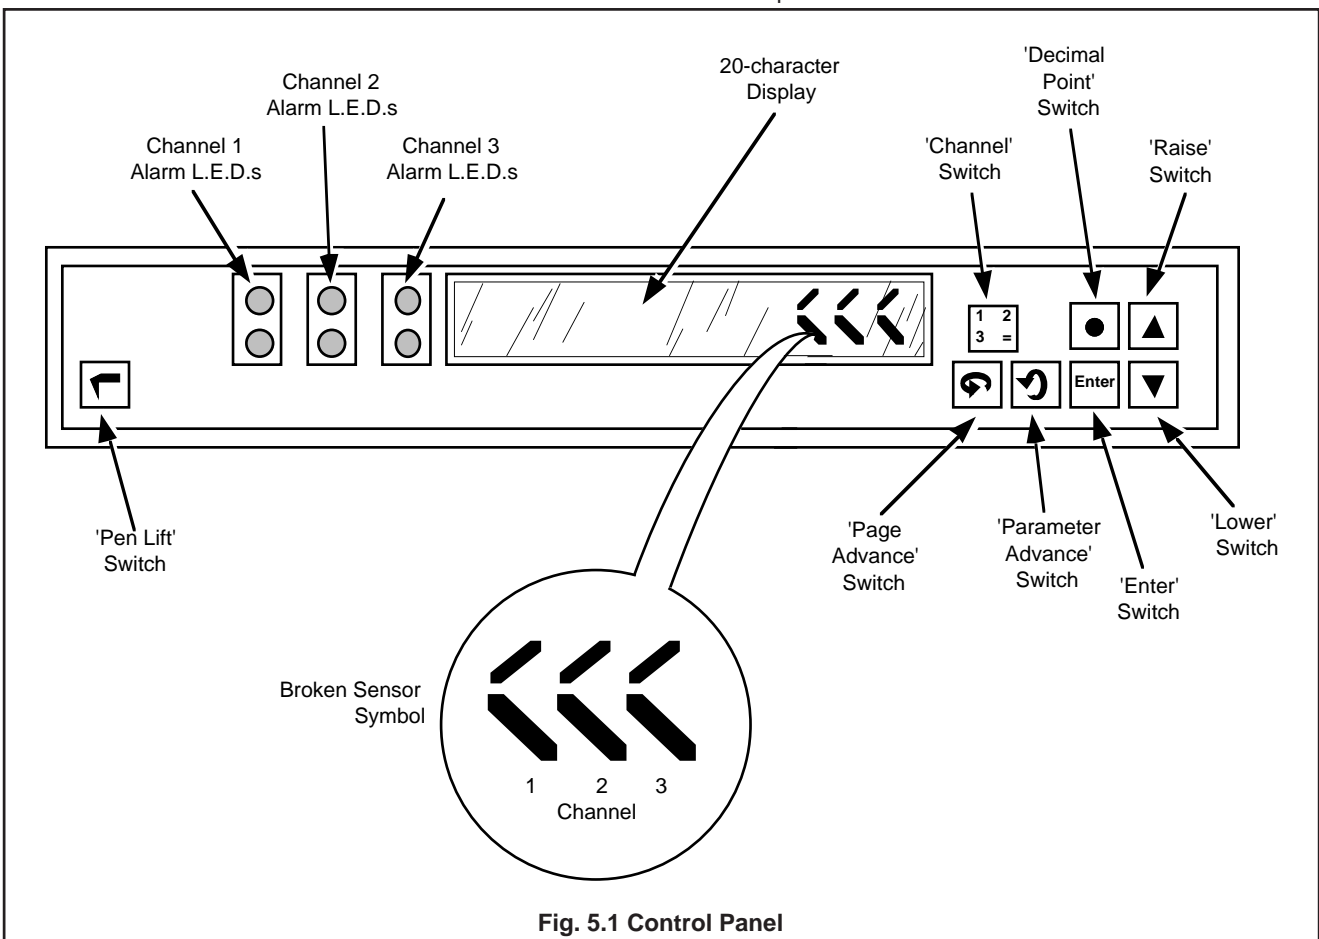

Fig. 5.1 Control Panel
5.1 Controls – Fig. 5.1
5.2 Display – Fig.5.1
The position of broken sensor symbols on the display identifies the channel affected – see Fig. 5.1.
5.3 Alarm L.E.D. Indication – Fig. 5.1
With the power supply to the instrument turned on operate the 'Pen Lift' switch – see Fig. 5.1.
In normal operation the measured values for all channels are displayed in an 'auto-advancing' sequence (**Operating Page 1**). Each parameter can be held for viewing by operating the 'Parameter Advance' switch – see Fig. 5.1.
Operating the 'Page Advance' switch selects a second Operating Page (**Operating Page 2**) for viewing or changing the alarm set points. Required changes to the set point values are made using the 'Raise' and 'Lower' switches see Fig. 5.1.
A further series of pages can be selected using the 'Channel' and 'Page Advance' switches if the Security Link is enabled – see Figs. 5.1, 8.1 and 8.2 on pages 16, 22 and 23.
Any changes to the operating parameters are made using the 'Raise', 'Lower', 'Decimal Point' and 'Enter', switches see Fig. 5.1.